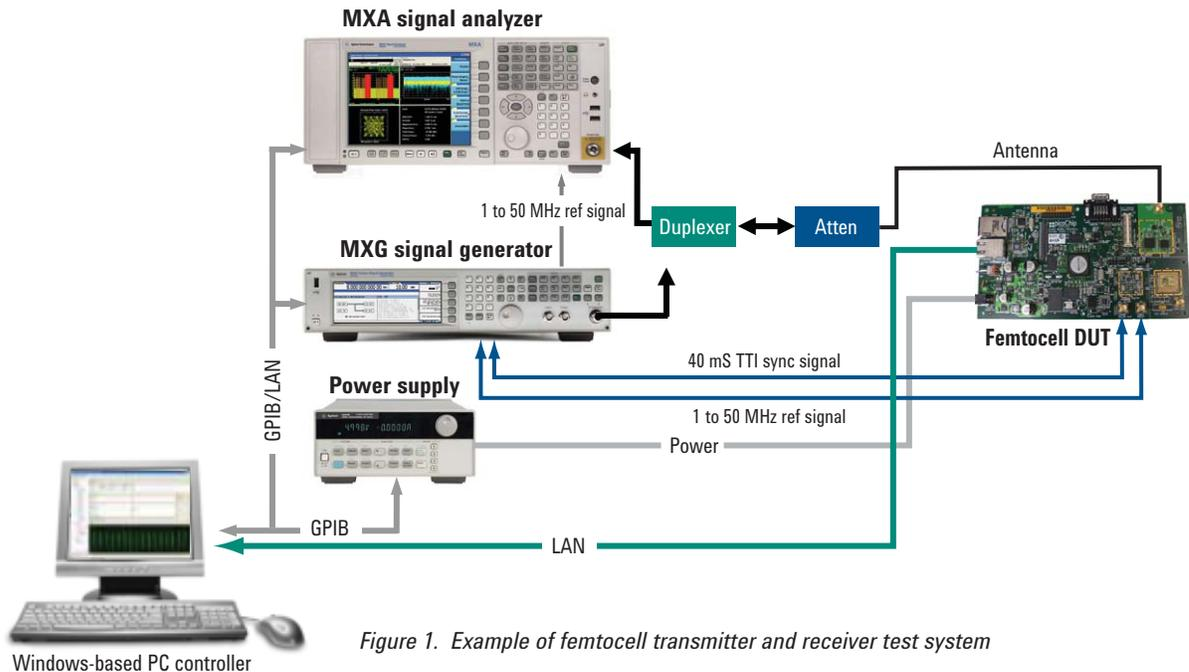

Figure 1. Example of femtocell transmitter and receiver test system
A typical femtocell transmitter and receiver test system is shown in Figure 1. This system can make femtocell measurements to ensure compliance to the 3GPP TS 25.104 ver 8.5.0 2008-12 standard. Example measurements include maximum output power, dynamic range, code-domain power, EVM, peak code-domain error, frequency error, spectrum emission mask, receiver sensitivity, and more.
1. Setup physical connection as illustrated in the diagram shown in Figure 1: